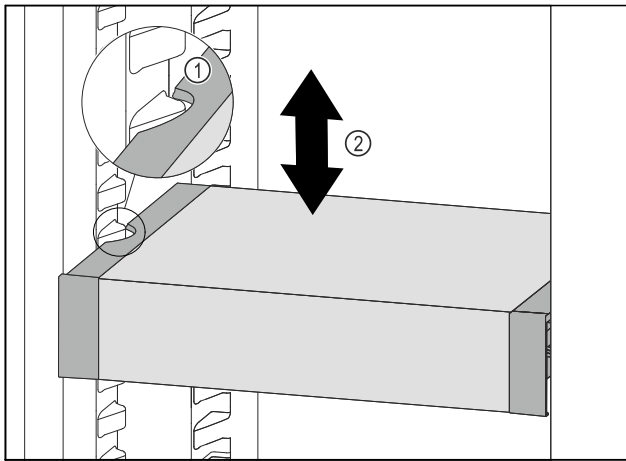

Fig. 168
- ▶ Pull VarioSafe forwards until the recesses in the side of the VarioSafe are at the level of the support rib in the refrigerator compartment. Fig. 168 (1)
- ▶ Move VarioSafe up or down in the refrigerator compartment until the desired height is reached. Fig. 168 (2)